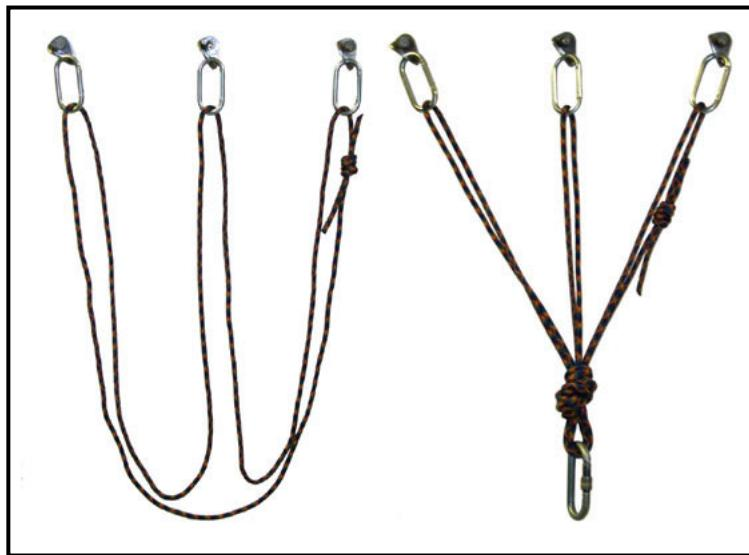

Figure 5-19. Pre-equalized anchor.
b. **Pre-equalized Anchor.** A pre-equalized anchor distributes the load equally to each individual point (Figure 5-19). It is aimed in the direction of the load. A pre-equalized anchor prevents extension and shock-loading of the anchor if an individual point fails. An anchor is pre-equalized by tying an overhand or figure-eight knot in the webbing or sling.